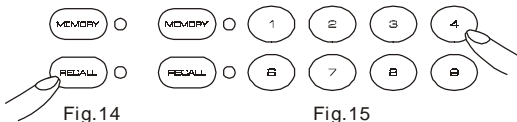

Fig.14 Fig.15
- d. Press RECALL BUTTON (9) (figure 14).